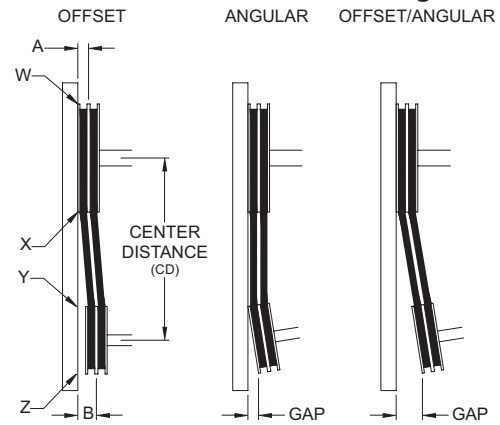
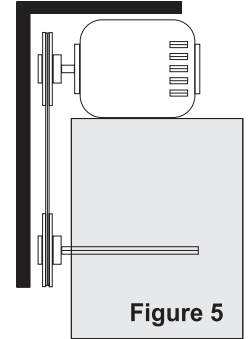

Figure 4
Figure 5
4. Ensure pulleys are properly aligned. Refer to *Figure 4*.
Figure 4 indicates where to measure the allowable gap for the drive alignment tolerance. All contact points (indicated by WXYZ) are to have a gap less than the tolerance shown in the table. When the pulleys are not the same width, the allowable gap must be adjusted by half of the difference in width. *Figure 5* illustrates using a carpenter's square to adjust the position of the motor pulley until the belt is parallel to the longer leg of the square.